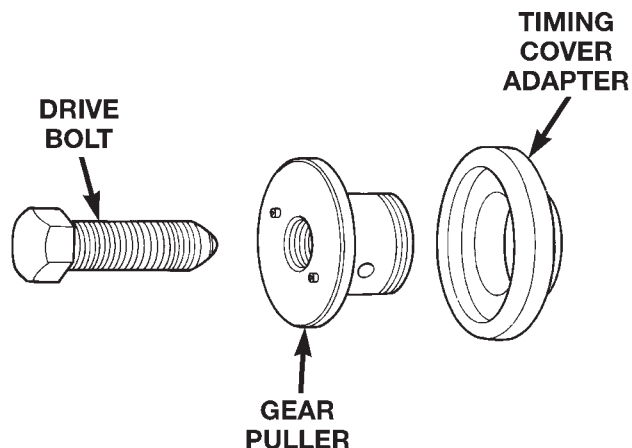

Fig. 37 Pump Gear Tools
(13) A special 3-piece gear removal tool set VM.1003 (Fig. 37) must be used to remove the injection pump drive gear from the pump shaft.